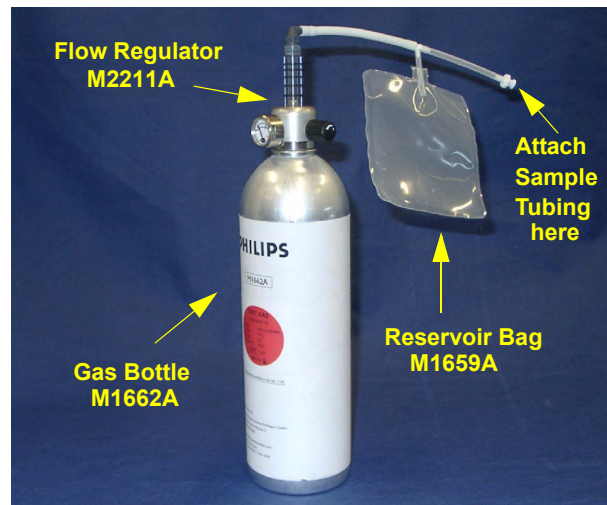

Figure 12 Span Checking Equipment including Gas Canister and Spray Valve
- 6 Make sure the pump is on, then connect the calibration gas bottle, the reservoir bag and the sample line as shown in Figure 12.